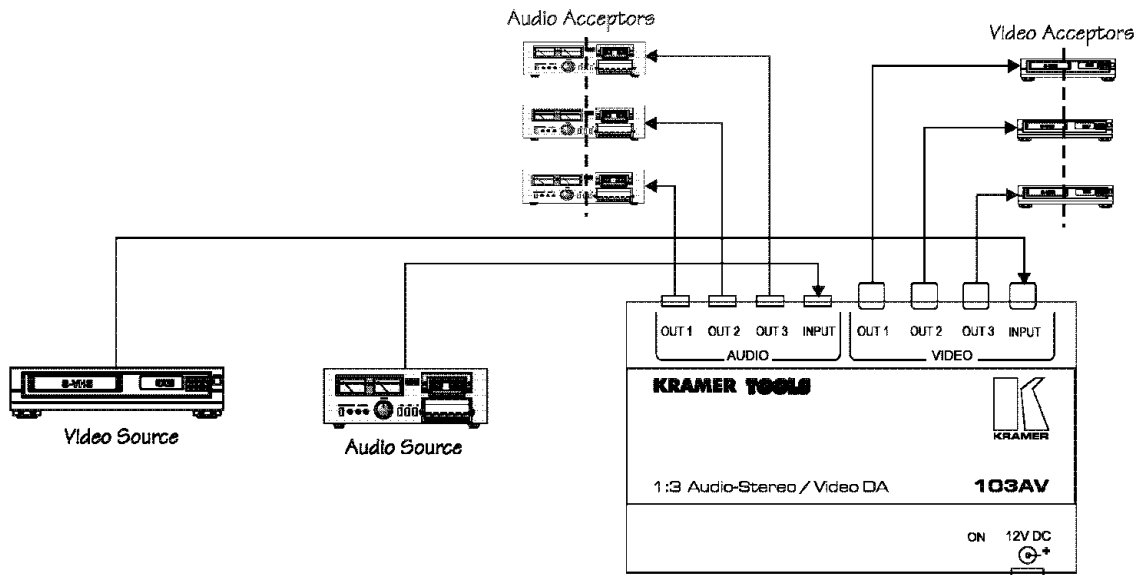

Figure 10: Combined Audio and Video Distribution
When a combined audio and video distribution is required, a combination of independent audio and video sources together with an audio/video distributor should be set up. Figure 10 describes a typical configuration using the 103AV video distributor together with audio and video sources. The 103AV receive audio and video signals at its **INPUT** connectors. The 103AV splits its incoming audio and video inputs to three audio acceptors and three video acceptors.
If only one of the distributors' outputs requires line amplification, while all the others are nearly located, connect the line amplifiers' input to the distributors' "long line desired" output as described in Figure 10 (B).